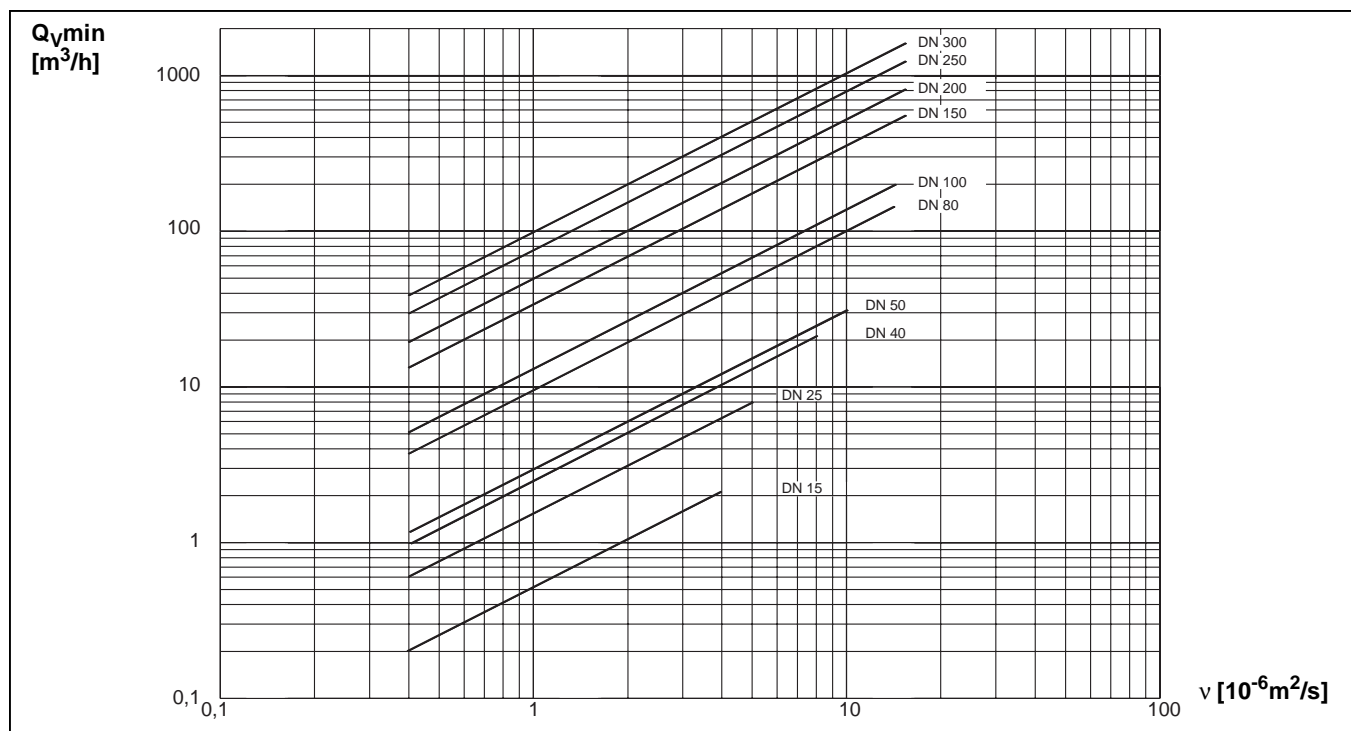

Fig.4 Minimum Flowrate, Liquids as a Function of the Kinematic Viscosity
2. Start of linear range, at 2 cSt, (from Fig. 4): Qvmin = 6 m3/h